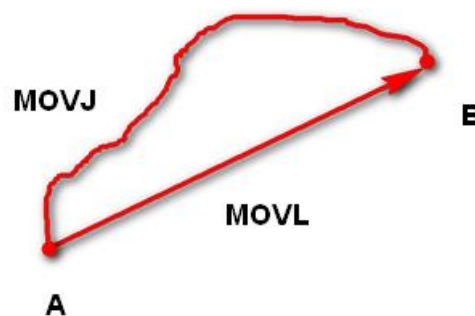

Figure 3.7 MOVL/MOVJ mode
- MOVJ: Joint movement. From point A to point B, each joint will run from an initial angle to its target angle, regardless of the trajectory, as shown in Figure 3.7.
- MOVL: Rectilinear movement. The joints will perform a straight line trajectory from point A to point B, as shown in Figure 3.7.